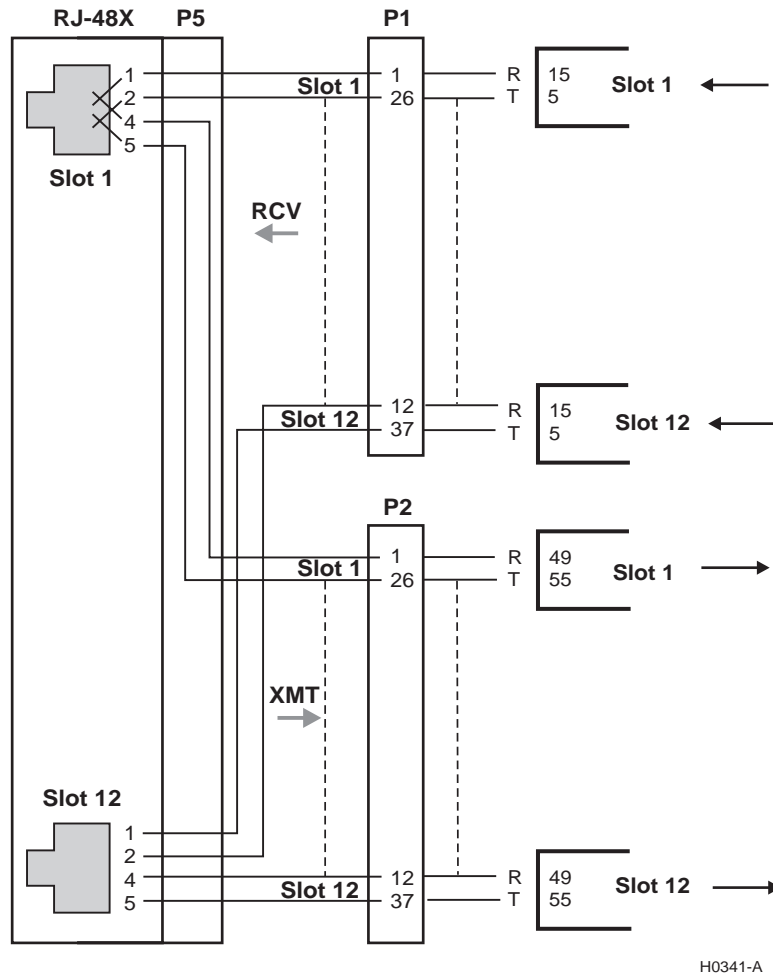

Figure 11. DS1, G.703 RJ48X Harmonic Cable Interface Assembly (Part Number 150-2201-02)
- RJ48X (Part Number 150-2201-02), shown in Figure 11 on page 15